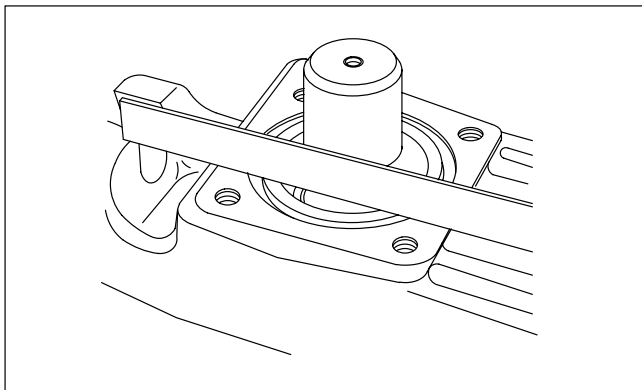

Figure 19. Pintle bearing spacer height with respect to pintle face.
- d. Set housing (27) on its side so the other pintle is up. Install bearing spacer (53) and rotate the yoke back and forth to seat bearings (55) within the bearing races. With spacer (53) fully in against the bearing race, measure the height of the spacer with respect to the housing pintle face in two places (180° apart). Use a depth micrometer to perform this measurement. See Figure 19. Average the readings to obtain a nominal value. A 0.007-0.009 inch preload is required of the pintle bearings. Calculate the necessary shims to provide this preload as follows: Assume the depth readings were 0.029 and 0.027 inch. Add the two figures together and divide by two to obtain the average. In this case the average calculated is 0.028 inch. Subtract the nominal preload of 0.008 inch from the calculated average to obtain the required shim thickness.